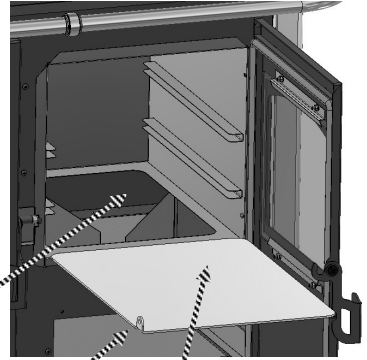

Fig. 3
UNDER OVEN FUME CONVEYER CLEANING (Fig.3)
- Once the cleaning operations have been finished re-assemble the top plate, paying attention to the correct assembly of the different parts. Attention to the positioning of the bent part upwards, see the image Fig.3.